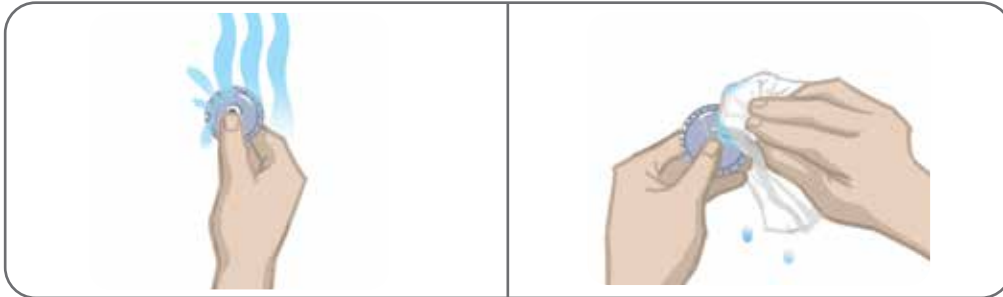

Figure 11-2: Wetting and Removing Excess Water
4. Wet the Round Cloth Electrodes with water until they are saturated. See Figure 11-2.
5. With a cloth, gently wipe or blot excess water off the back (side with the snap) of the electrodes. See Figure 11-2.